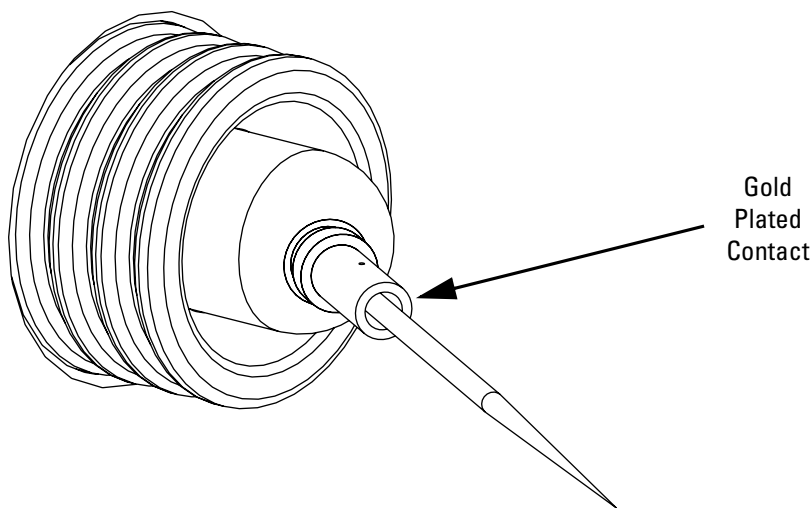

Figure 6-7. Corona needle, view from rear
- c. Using pliers, grasp the needle by the gold plated contact and push the needle straight into the socket. See Figure 6-7.